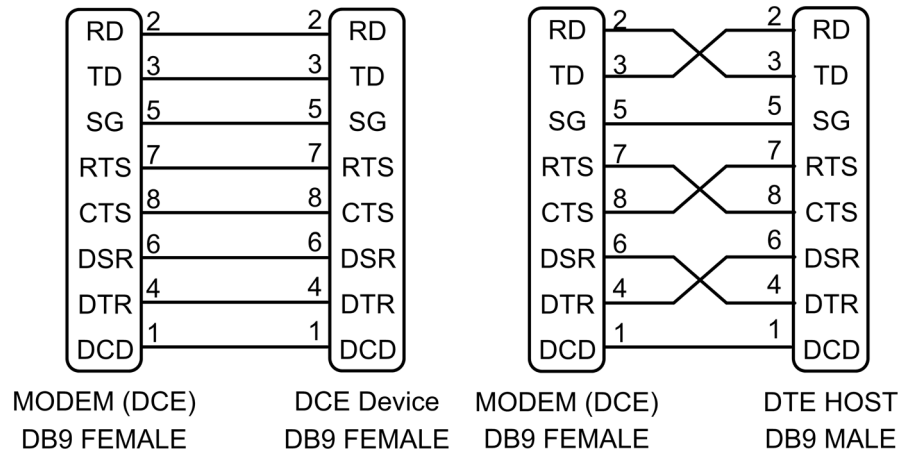

Figure 13 Serial Cable
Figure 13 shows example cable drawings for connecting to a DTE host (PC) or another DCE device (modem). A rule of thumb for determining if a device is DCE or DTE is to look at the DB-9 connector. If the connector is female the device is DCE, and if it is male the device is DTE. In addition, if the device functions when plugged into a computer using a standard straight-through cable, the device is a DCE.